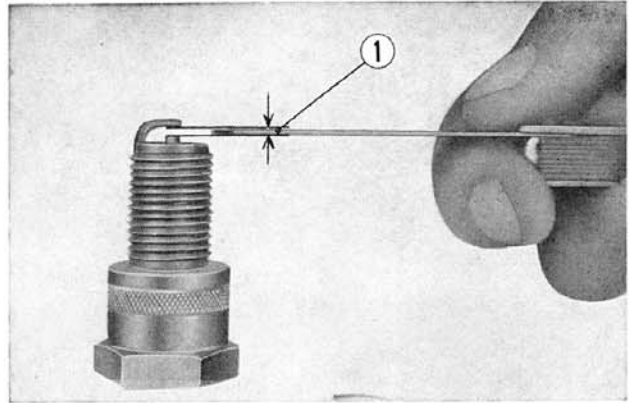

Fig. 7-12 ① Spark plug gap
3. After completing inspection of section 2 adjust spark plug gap to **0.024~0.028 in (0.6~0.7 mm)**. The gap can be measured by a thickness gauge. The adjustment is made by bending the negative (ground) electrode (Fig. 7-12)